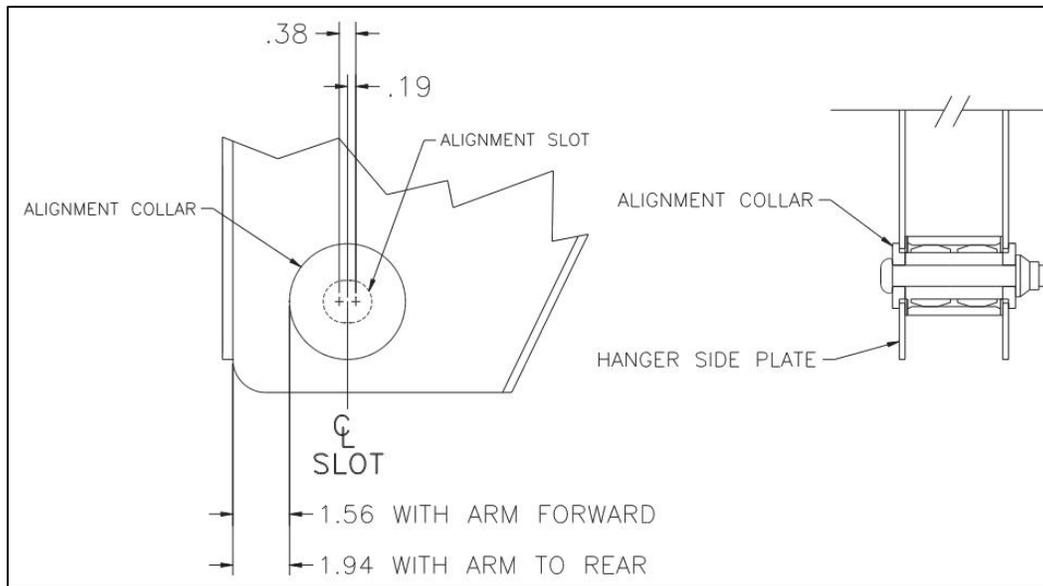

Figure 14
8. Tack weld the driver side alignment collars to frame bracket in four (4) places, two (2) places on the outboard side, and two (2) places on the inboard side (See **Figure 14**).